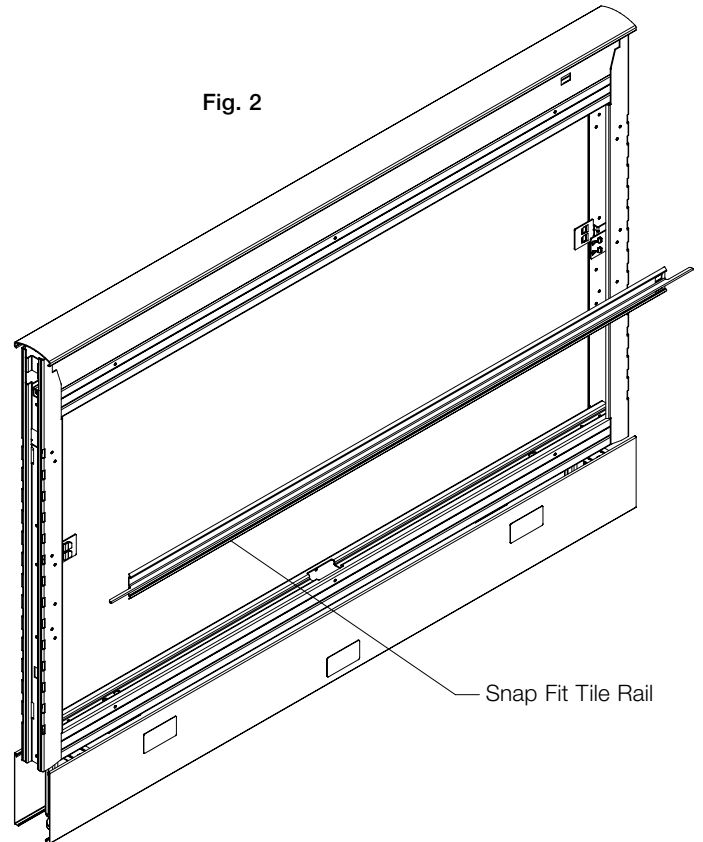

Fig. 2
2. Place non-cut (Plain) end of tile rail inside large tabs of mounting bracket. Position rectangular cutouts of the tile rail over small tabs of mounting bracket. Snap into place. (Fig. 2)